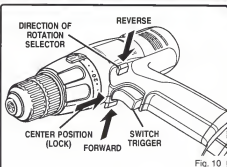

Fig. 10
- Place the direction of rotation selector in center position. This will lock the switch trigger in the off position. See Figure 10.
- Lock the switch trigger by placing the direction of rotation selector in center position. See Figure 10.
- Place the direction of rotation selector in center position. See Figure 10.
See Figure 10.